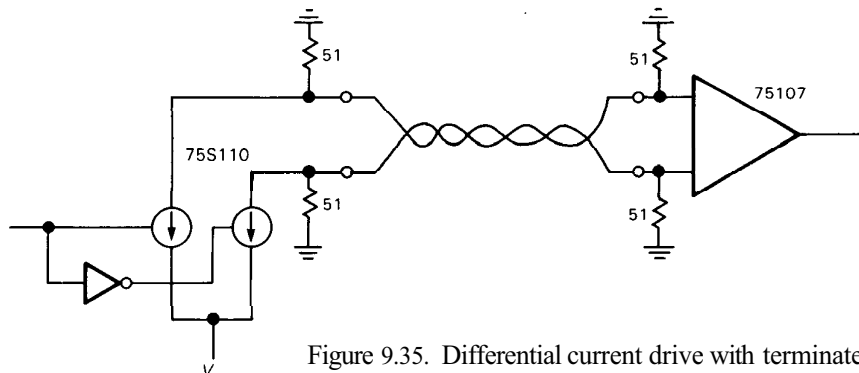

Figure 9.35. Differential current drive with terminated receiver.
□ **Current-sinking drivers.** Chips like the 75S110 and MC3453 have switched current-sinking outputs, which can be used as single-ended outputs or in a differential mode, as in Figure 9.35. The 75107 is a companion differential receiver chip, normally used with a termination as shown. Several drivers can share a common differential line in a "party line" configuration, since their outputs can be disabled via a "three-state" enable; in that case the terminations at each driver are omitted, and moved to the end of the line farthest from the receiver.